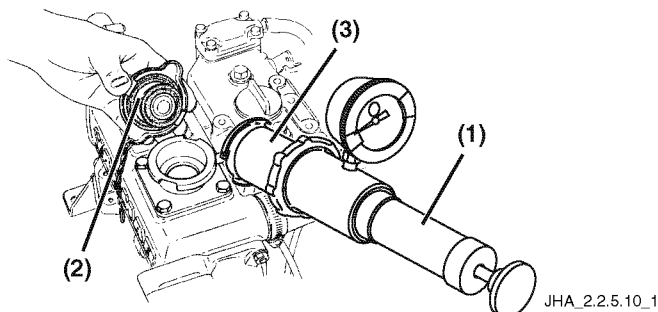

Figure 4-43
Clean the pressure cap (Figure 4-43, (2)) with fresh water because it will not close completely if dirty.
4. Install the adapter (Figure 4-43, (3)) to the tester (Figure 4-43, (1)).